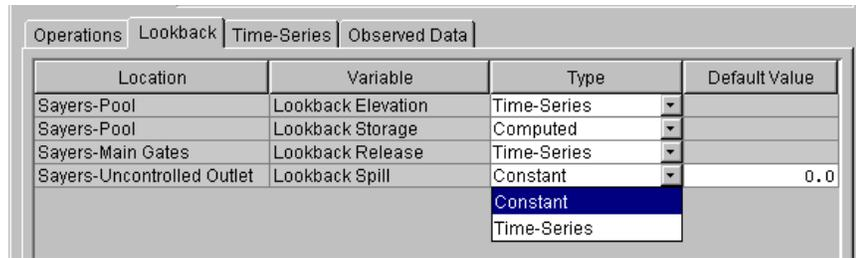

Figure 13.6 Alternative Editor--Lookback Tab
2. For each location or parameter, double-click in the white **Type** cell and select either **Constant** or **Time-Series**, (as shown in Figure 13.6).